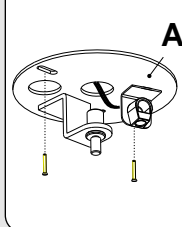

FIG. 2
- Fig. 2** Guide the electrical wire in one of the 2 side holes "F" and the steel wire through the central hole "D" of the canopy "B". **PLEASE NOTE:** IN ORDER TO PASS THE ELECTRICAL CABLE, IT IS NECESSARY TO PUNCH A HOLE WITH A SCREWDRIVER IN THE PLASTIC MEMBRANE INSIDE ONE OF THE THREE PREARRANGED HOLES OF THE CANOPY "B".